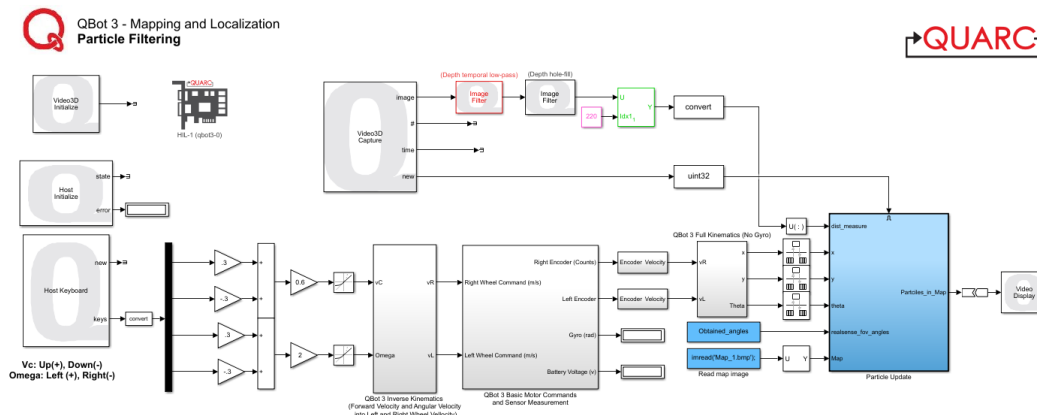

Figure 2.1: Snapshot of the controller model `QBot3_Particle_Filtering.mdl`
In this exercise, you will become familiar with particle filtering, an iterative algorithm used for localization. The controller model for this exercise, shown in Figure 2.1, is called `QBot3_Particle_Filtering.mdl`.
1. Wait until the QBot 3 has fully initialized, and then enable the movement of the robot using the manual switch shown in Figure 2.1. This is an important step to insure that the sensor has fully initialized.